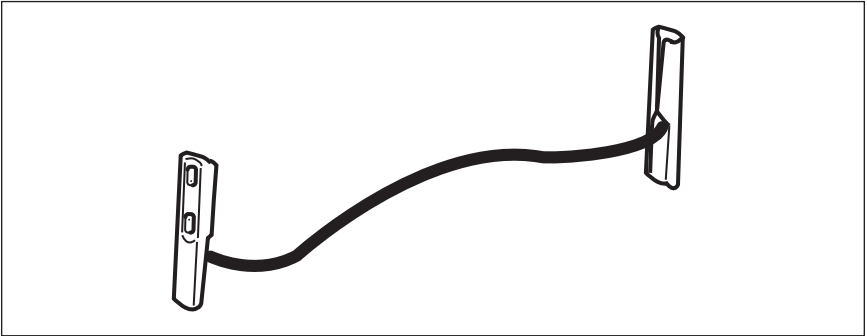

Figure 1. Elastic tie-downs
**Y**our handcar is secured to the flatcar by two elastic tie-downs, illustrated in Figure 1. To free the handcar, pull the strap clips away from the bottom of the car, and then pass the strap clips through the hole in the frame. With the elastic tie-downs removed, the handcar is free from the flatcar.